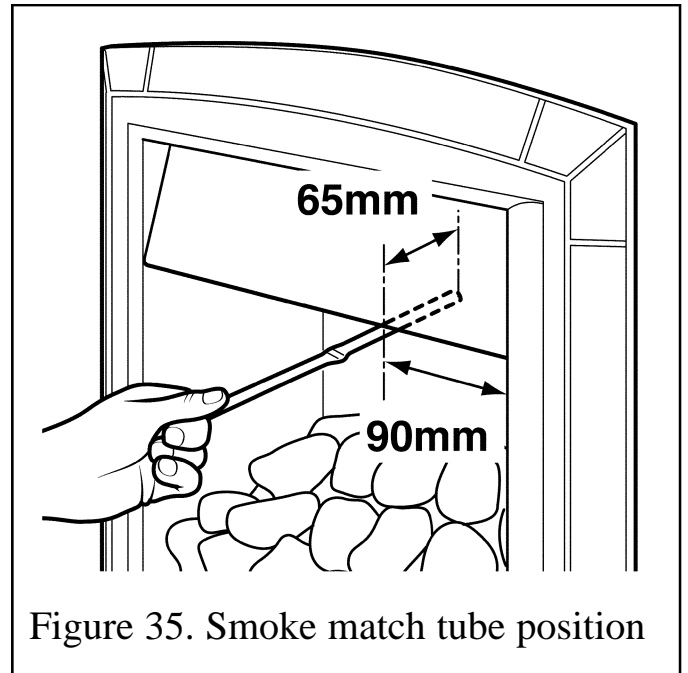

Figure 35. Smoke match tube position
4. The smoke match should be placed horizontally into the hotbox at the right hand side (See figure 35).